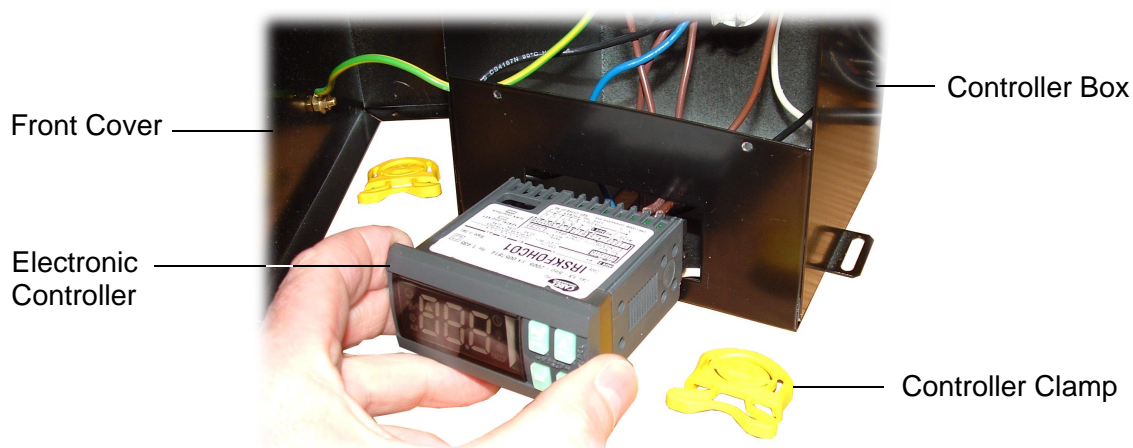

Figure 23: Removing the Electronic Controller
6. The controller can now be removed (see Figure 23 below).